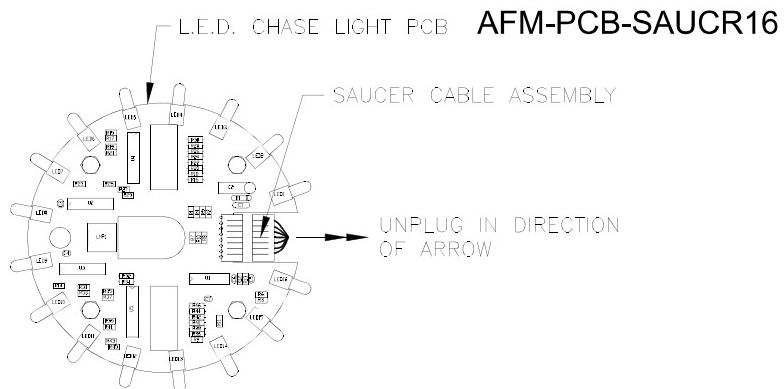

FIGURE 6
4. Carefully unplug the Saucer Cable (p/n AFM-CBL-SUCRCBL) from the L.E.D. Chase Light PCB (p/n AFM-PCB-SAUCR16) and push the cable out of the Saucer Body Assembly through the rectangular accesshole in the bottom of the Saucer Body Assembly. (See Fig.6)